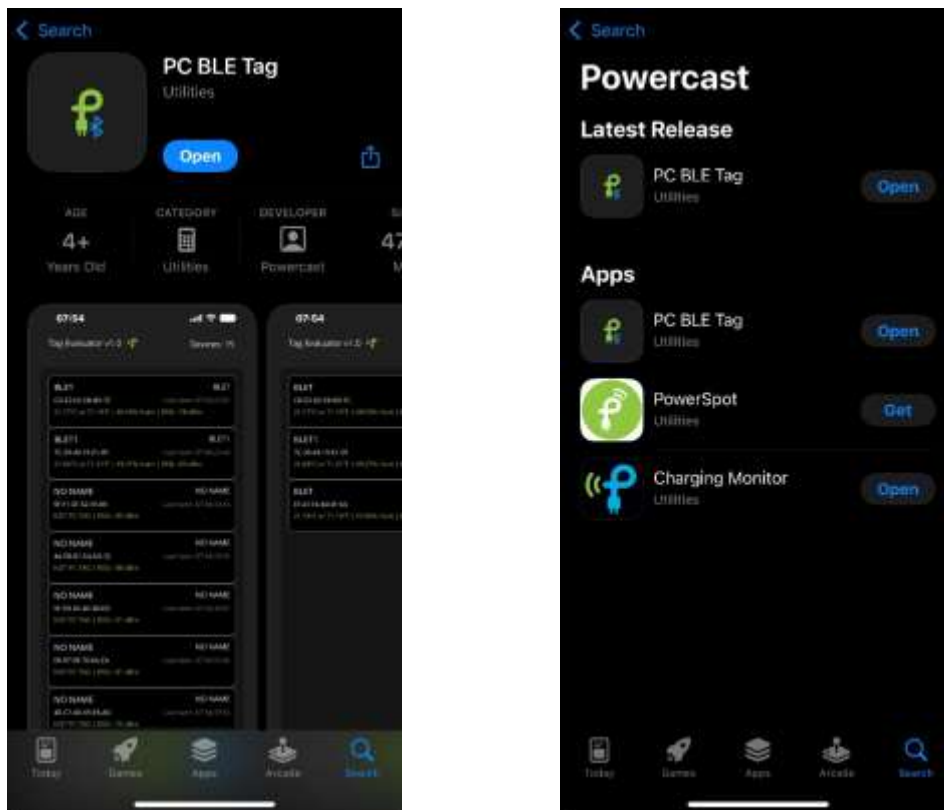

Fig 1: PC BLE Tag App Page and Powercast Developer page in Apple Store
- i) The PC BLE Tag app can be found in the Apple App Store and Google Play by searching “PC BLE Tag” or through the Powercast developer page. *(Refer fig 1 below)*